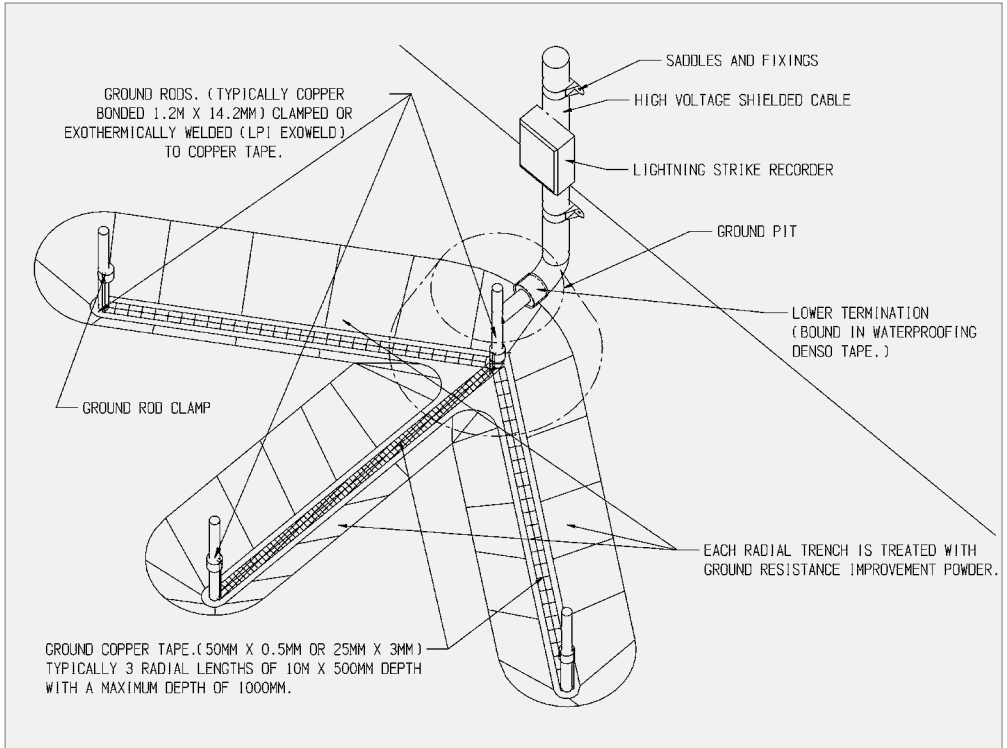

Figure 8.
LPI recommends the installation of a radial lightning earth as shown in figure 8.
- A ground pit should be installed where the end of the down-conductor terminates to the lightning earth as shown in figure 8. This gives an access point for disconnection and future testing.